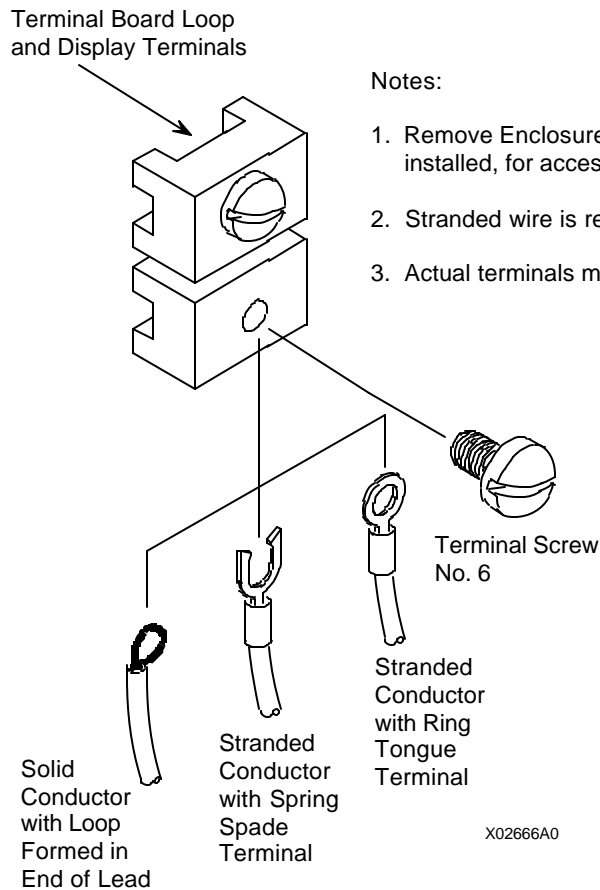

FIGURE 4-18 Conductor Terminations
This section describes loop wiring for Point-To-Point and Multi-Drop Networks. Refer also to Section 4.8 for installations in hazardous locations. Figure 4-18 shows typical conductor terminations.
3. Determine method of connection to transmitter signal terminals; see Figure 4-18 for typical connection methods.